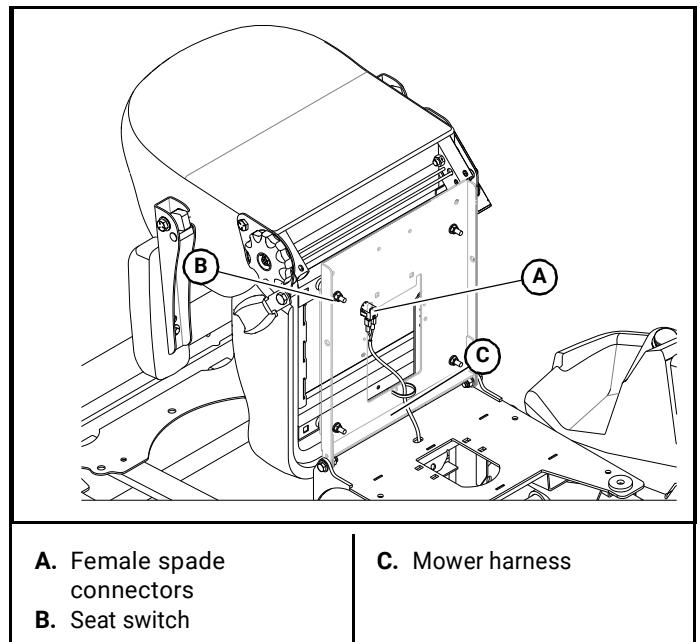

Figure 4-1
3. Raise the seat platform and disconnect the mower harness from the seat switch. Bypass the seat switch by connecting the two mower harness female spade connectors together. Figure 4-1
- IMPORTANT:** With the engine off, disconnect the two female spade connectors from each other (from step #3) and reconnect them to the seat switch. This must be completed so that the safety circuit is functioning properly. Figure 4-1